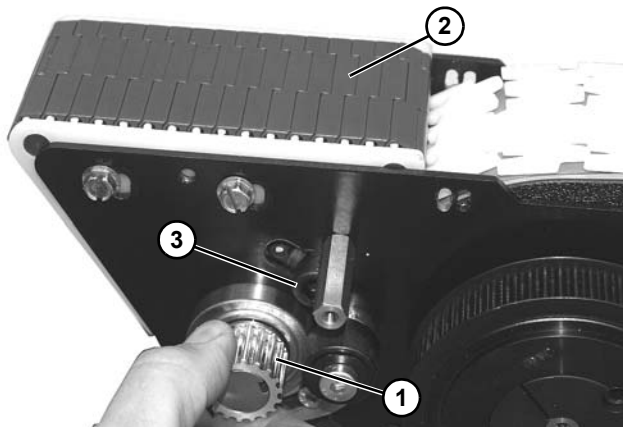

Figure 177
10. Rotate drive shaft (**Figure 177, item 1**) to verify tightness of belt (**Figure 177, item 2**). Belt should turn freely. Loosen idler socket head screw (**Figure 177, item 3**) and adjust, if necessary.